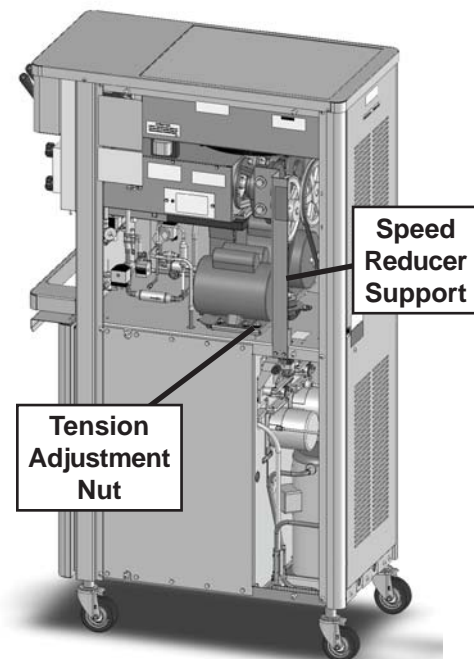

Figure 6-5 Motor Removal
5. Remove the speed reducer support from the side of the machine. (Refer to Figure 6-5)
6. Loosen the belt tension adjustment nut and remove the belt. (Refer to Figure 6-5)